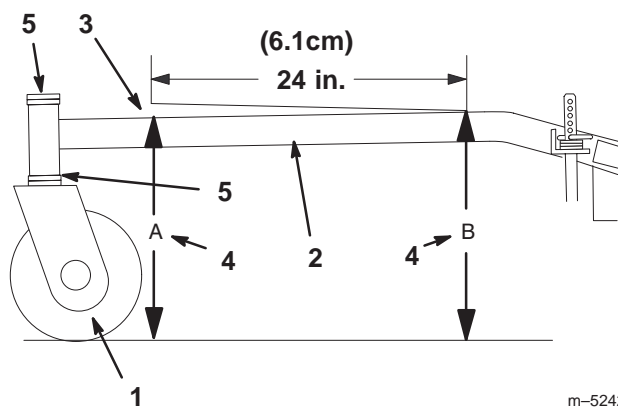

Figure 60
1. Measure out 24 inches on the carrier frame (Fig. 60).
2. Measure carrier frame height at location “A” (Fig. 60).
3. Measure carrier frame height at location “B” (Fig. 60).
4. The height at location “A” must be a 1/4–3/8 in. (6 mm –10 mm) lower than location “B” (Fig. 60).
5. If the carrier frame is not correct, move caster spacers to make it a 1/4–3/8 in. (6 mm –10 mm) pitch (Fig. 60). Move spacers from top or bottom to make the correct pitch.